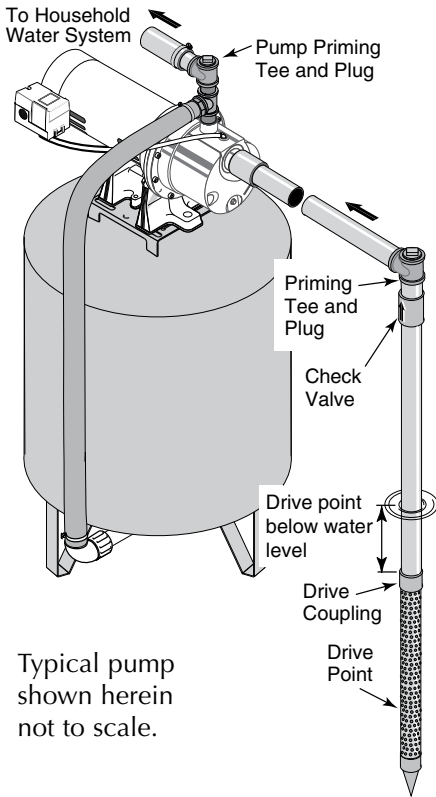

Figure 1: Driven Point Installation
Well Point (Driven Point) Installation (Figure 1)
3. Use the fewest possible fittings (especially elbows) when connecting the pipe from the well point to the pump suction port. The suction pipe should be at least as large as the suction port on the pump (include a check valve if your pump is not equipped with one – see Figure 1). Support the pipe so that there are no dips or sags in the pipe, so it doesn’t strain the pump body, and so that it slopes slightly upward from the well to the pump (high spots can cause air pockets which can air lock the pump). Seal the suction pipe joints with PTFE pipe thread sealant tape or a PTFE-based pipe joint compound. Joints must be air- and water-tight. If the suction pipe can suck air, the pump cannot pull water from the well. If one well point does not supply enough water, consider connecting two or three well points to one suction pipe.